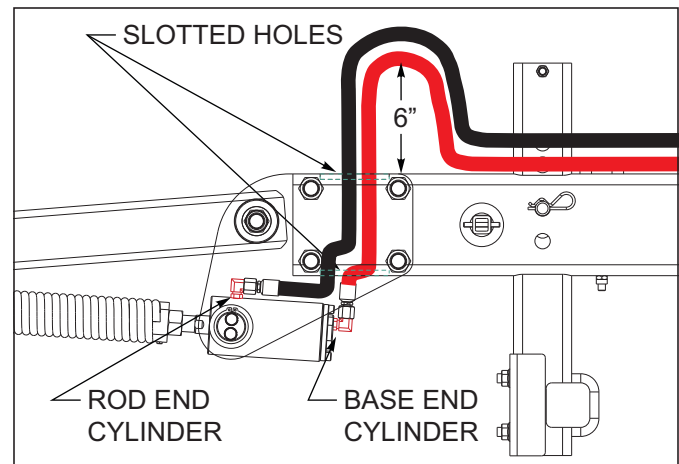

Figure 3-22: Hose to Cylinder Installation
11. On hydraulic 3BDT/Chopper Reel option, attach hoses down through the slotted holes of combo harrow mount arm to cylinders as shown See Figures 3-22. Route hoses from base end of cylinder to top set of holes of 8 port manifold, rod end to bottom holes of manifold.